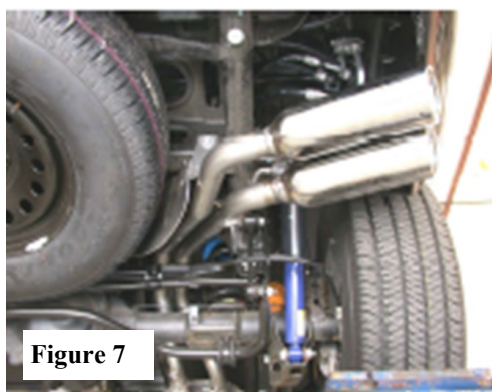

Figure 7
4. Check your exhaust system for proper clearance under the vehicle and also for tip alignment. (See Fig. 7)